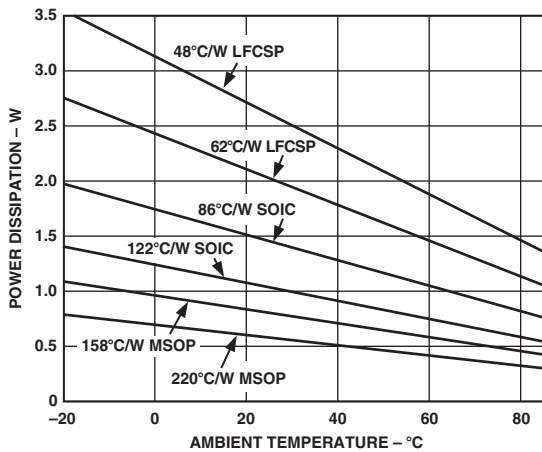

Figure 5. Power Derating Curve
The maximum power dissipation versus ambient temperature for each package is shown in Figure 5.
2. The thermal pad of the LFCSP package provides a low thermal impedance path (approximately 20°C/W) to the PCB. Therefore the PCB must be properly designed to effectively conduct the heat away from the package. This is achieved by adding thermal vias to the PCB, which provide a thermal path to the inner or bottom layers. See Figure 5 for the recommended via pattern. Note that the via diameter is small to prevent the solder from flowing through the via and leaving voids in the thermal pad solder joint.
| Renumbered Figures 5 and 6 | 8 |
| Added Figure 5 | 8 |